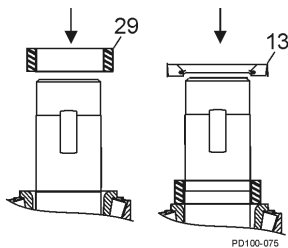

Figure 213 - Install Rear Seal
- Install the gear spacers (Figure 213, item 29).
- Install the oil seals with the spring facing out (Figure 213, item 13).